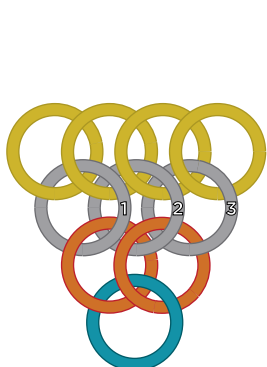

FIG. 5
8. Thread and close 1 open jump ring through the leftmost jump ring of the previous row (stay on the outside edge). Then thread and close 1 open jump ring through the rightmost jump ring of the previous row (stay on the outside edge) (FIG. 5).